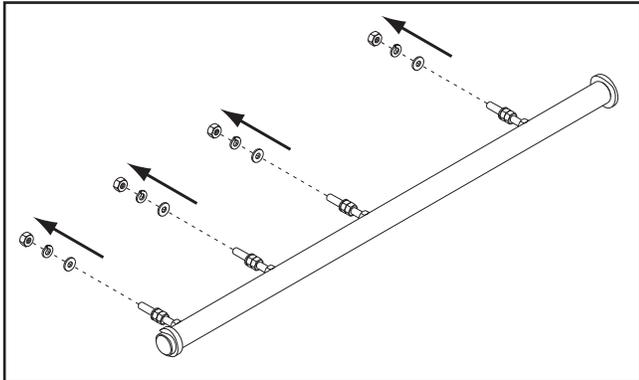

Figure 13. Hardware removed from fence rail studs to prepare for installation.
6. The fence rail is pre-assembled with four rail studs and accompanying hardware. Remove one hex nut, flat washer, and lock washer from the end of each stud, as shown in **Figure 13**.